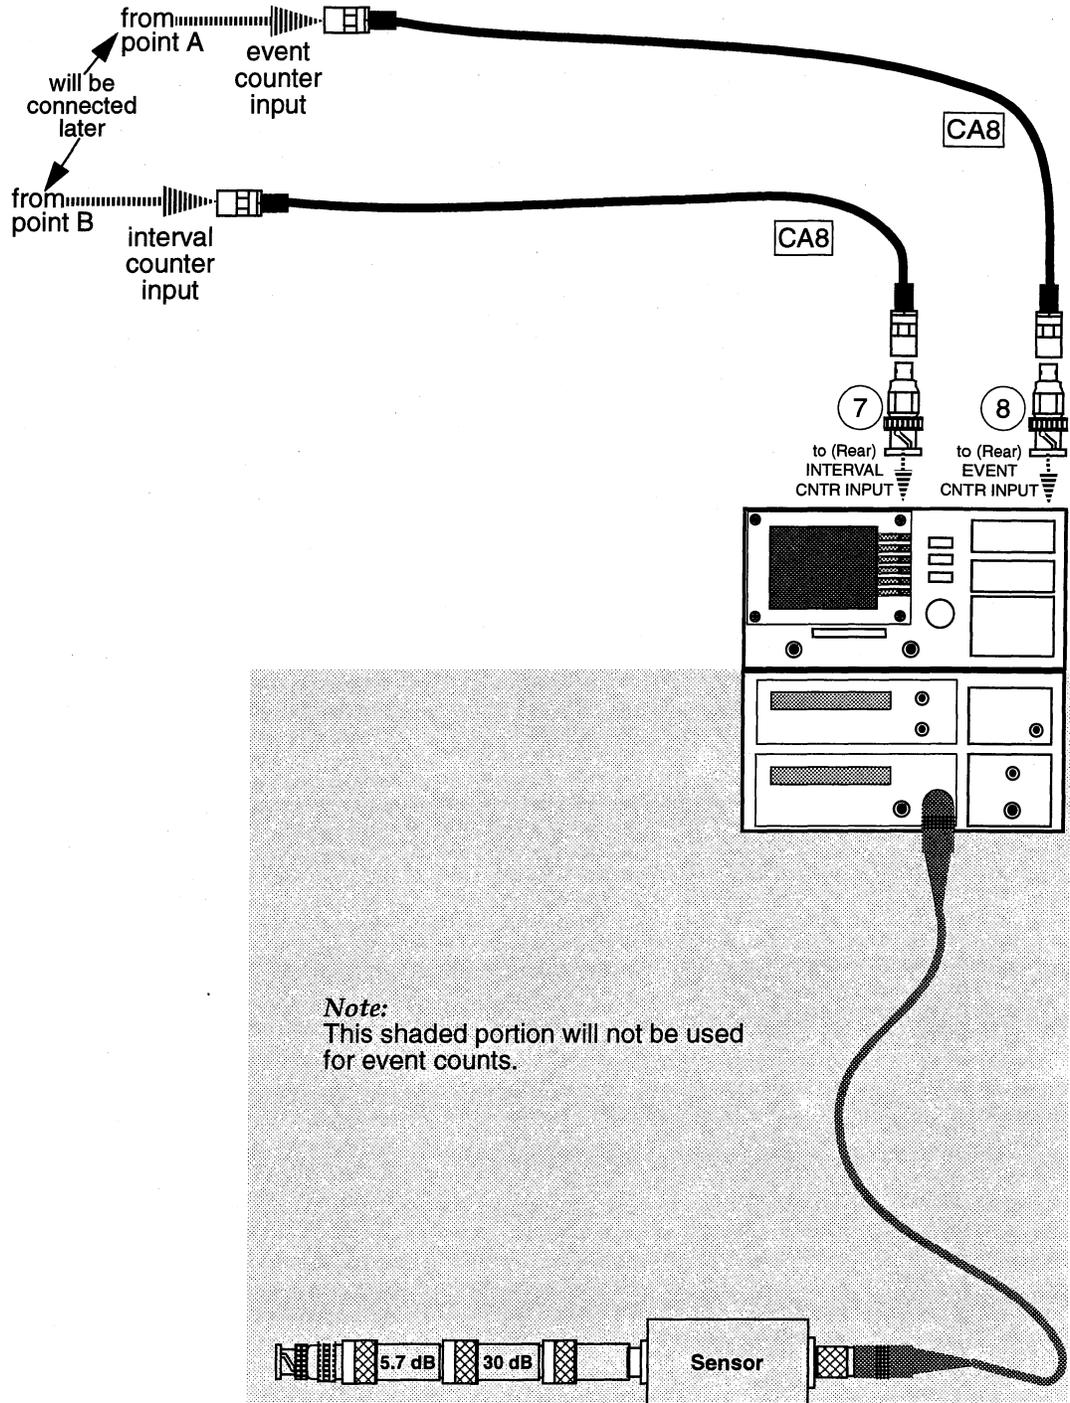

Figure 6. Event Counts
1	Connect the test equipment as shown in Figure 6.
- 4 To monitor the system signal (64QAM), connect the Figure 6 test connections for the desired measurement per the following step number:
- 13 To monitor DS3 performance at a terminal location, connect the Figure 6 test connections for the desired measurement per the following step number: